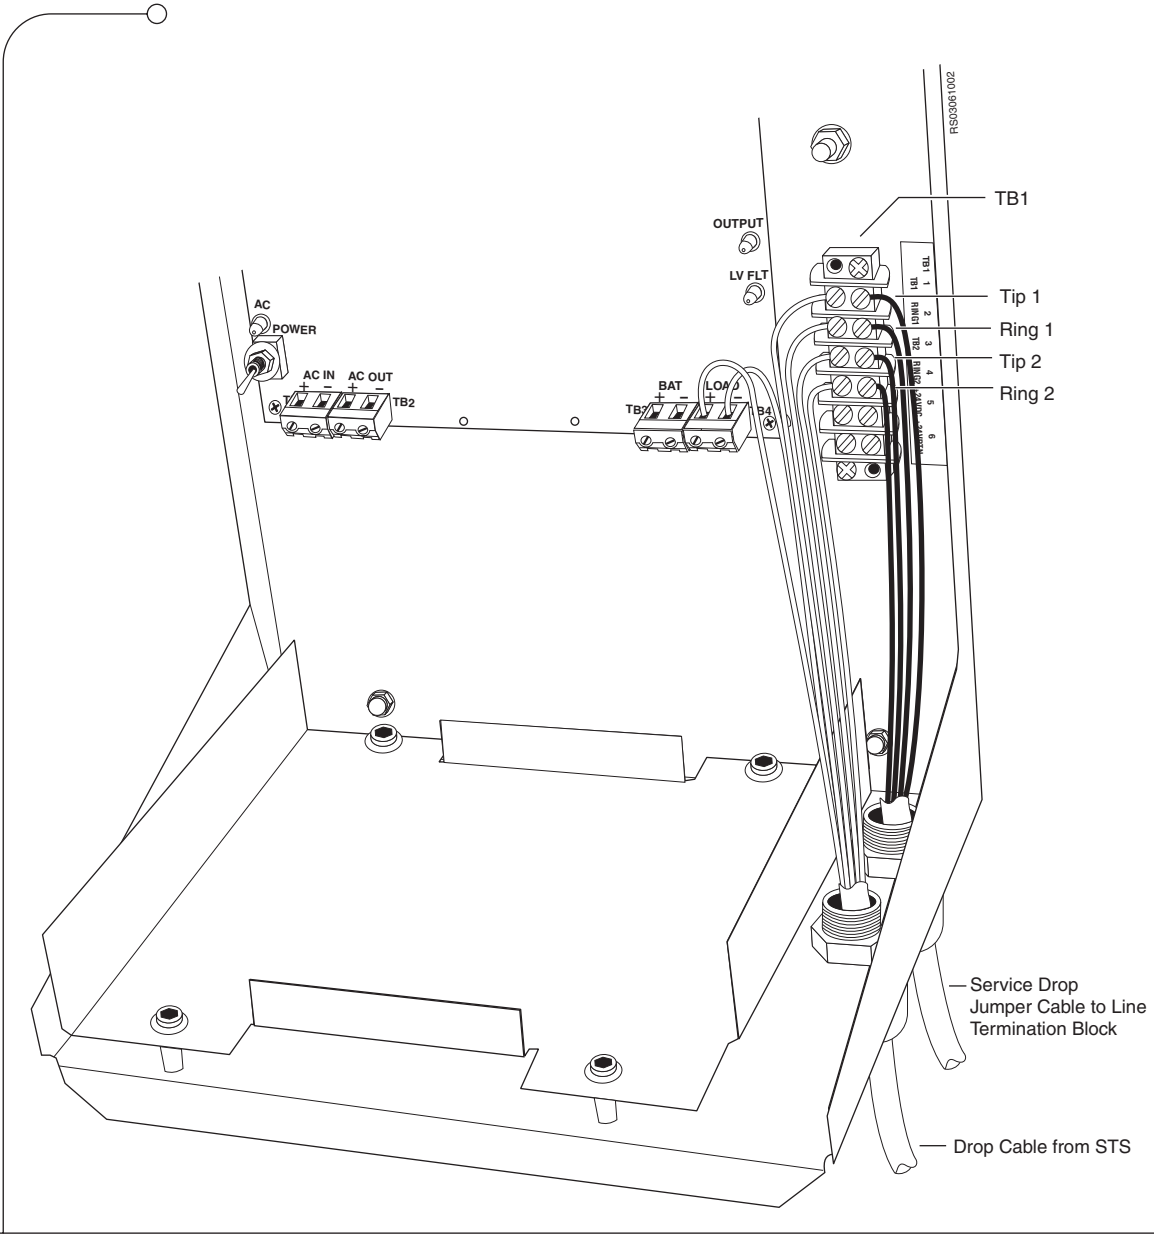

Figure 3.19 Subscriber Lines Connections to the Line Termination Block
2. Connect Tip 1 and Ring 1 on TB1 to line 1 on the subscriber's LTB as shown in Figure 3.19 on page 63.